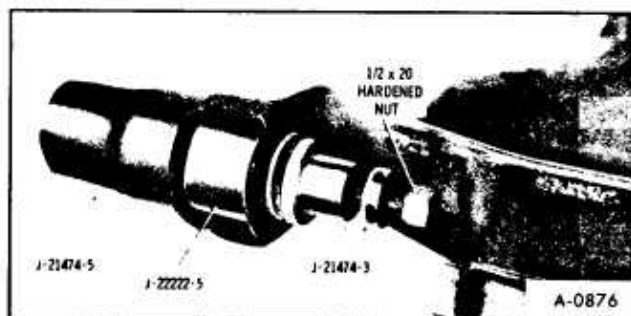

Figure 22—Removing Lower Control Arm Front Bushing
**NOTE:** Due to the torsion bar anchor attachment to the lower control arm, it will be necessary to use a hardened 1/2" x 20 nut as shown in Figure 22 to remove the front bushing.